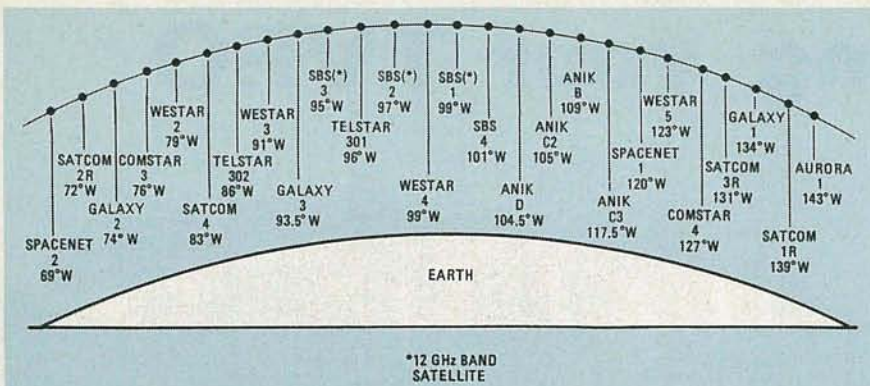

FIG. 1—CHARTING THE SATELLITES. The positions of all North American satellites in the Clarke Belt are shown here.
- The satellites are located in a belt over the equator, at a height of 22,300 miles (see Fig. 1). If you are in North America, that generally means that the satellites will be south to southwest of you.